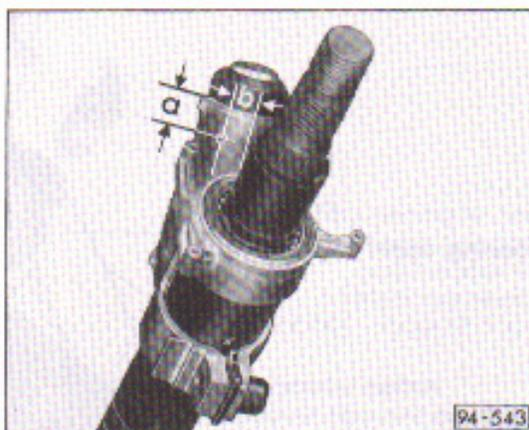

Fig. 2 Steering column lock switch housing (from 10.79)
- Removing and installing - Fig. 2